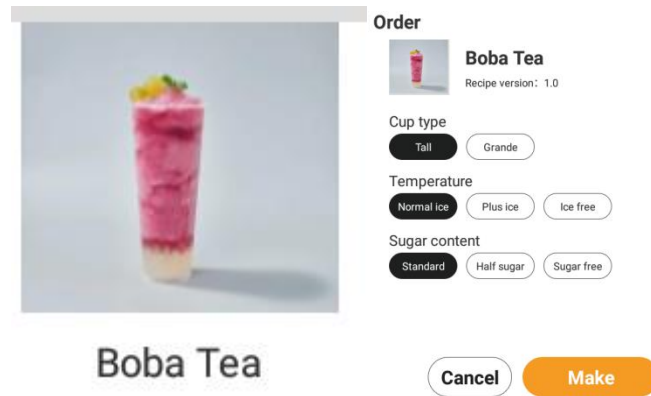

Fig. 4.3.2
- Order and dispense: Click the cup picture to order, select the corresponding cup type, temperature, sugar degree and preparation method to make drinks (Fig. 4.3.2)